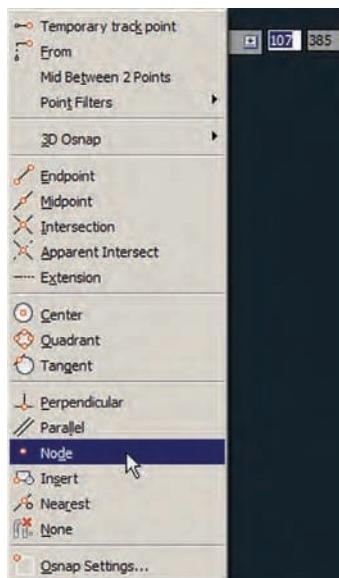
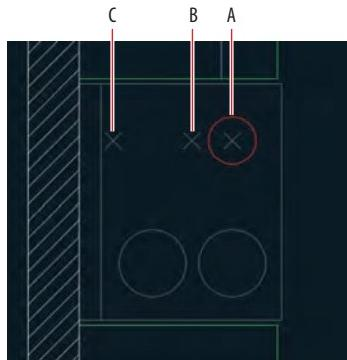

FIGURE 2.21 Object Snap context menu
FIGURE 2.22 Drawing a circle by locating its center using node snap
5. Select Node from the context menu (Figure 2.21) and then click point A (shown in Figure 2.22). The prompt in the Command window reads as follows:
Type **2P** to indicate the two-point option and press Enter. Hold down Shift and right-click to open the Object Snap context menu. Select Node and then click point B (shown in Figure 2.22).
7. Hold Shift again, right-click, and choose Node. Click point C (shown in Figure 2.22), and the CIRCLE command is completed.
9. Hold Shift, right-click again, and type **G**. Notice that this letter is underlined in the word *Tangent* in the context menu (refer to Figure 2.21). Click the circle on the bottom left.